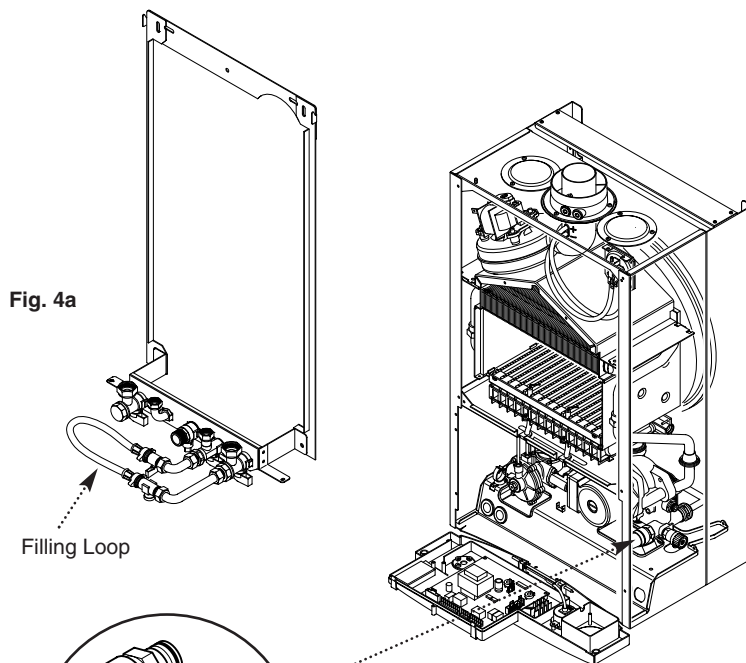

Fig. 4a
2. There are connection points on the mains cold water inlet and central heating return isolating taps (Fig. 4a) to which the optional filling loop kit (Part No. 248221) can be assembled.